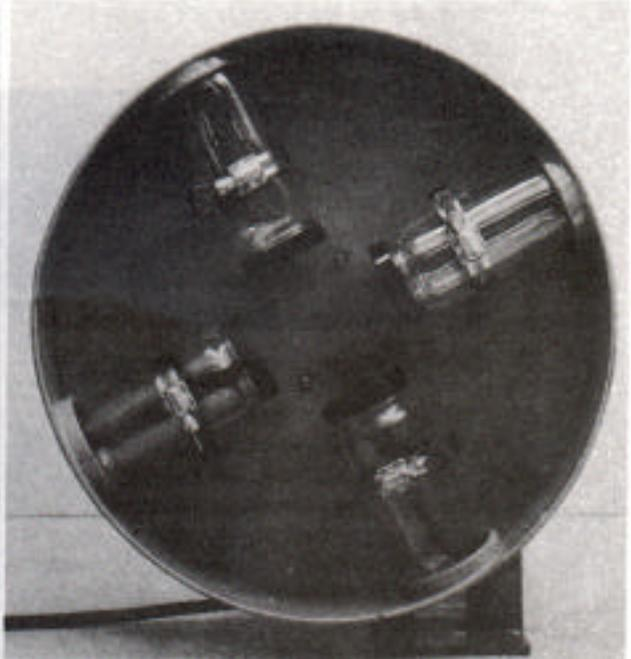

FIGURE 6
4. By visual observation, estimate the percentage of aggregate stripped when the jar is viewed beneath fluorescent light. The optional light box may be used to do this. Estimate on the basis of total surface of the mass. (See Figure 6).